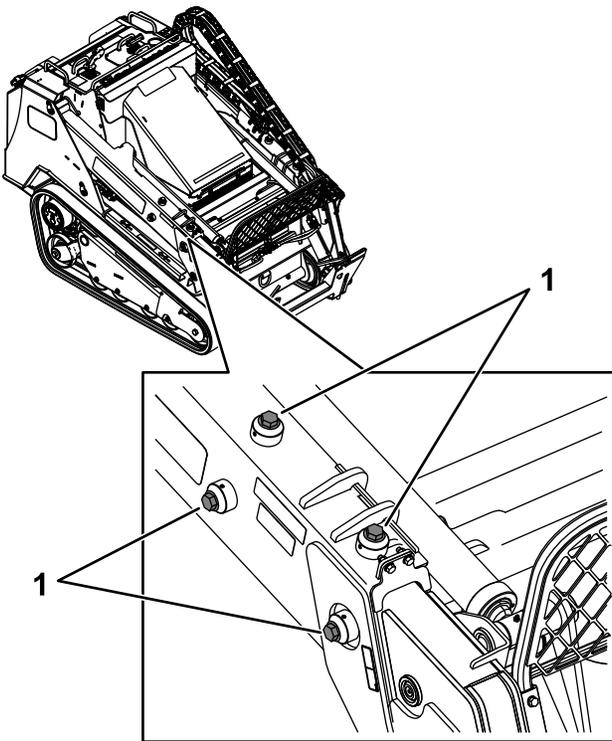

Figure 86
3. On each loader arm, loosen the setscrew on the 4 adjustment screws (**Figure 86**).